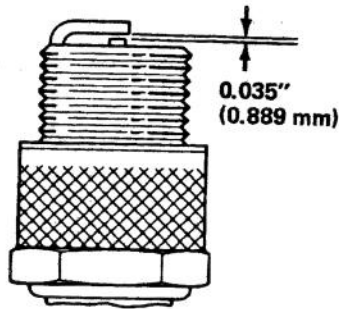

Figure 23
6. Set air gap between electrodes of new spark plug at 0.035 of an inch (0.889 mm) (Fig. 23). Install spark plug in cylinder head and tighten it to 15 ft-lb (20.4 N·m). If torque wrench is not used, tighten plug firmly.